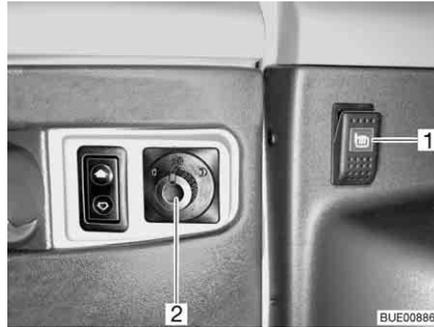
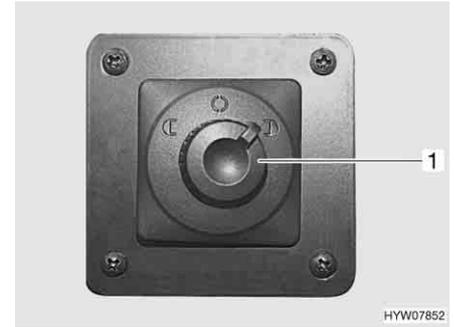

Fig. 36 External mirror adjustment and heater switch (Viseo)
Fig. 37 External mirror adjustment switch
- Select the external mirror to be adjusted. To do so, turn the rotary switch (Fig. 36,2 or Fig. 37,1) to the left or right.
- Press the switch (Fig. 36,2 or Fig. 37,1) in the appropriate direction.
- Press the switch (Fig. 36,1 or Fig. 38,1) on the dashboard or on the centre console. The switch indicator lamp shows it is in operation.